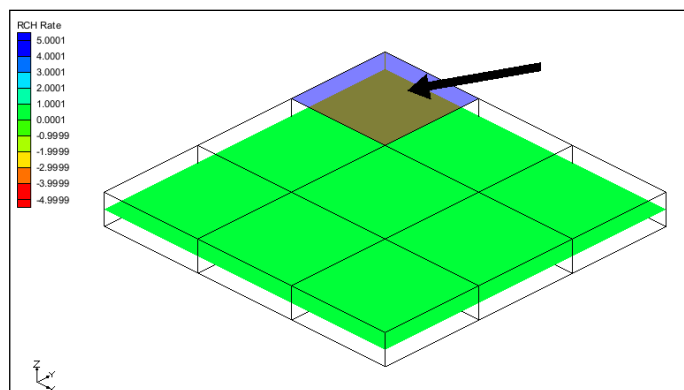

Figure 3 Select the cell indicated by the arrow (IJK: 1,1,1)
2. Using the **Select Cells**  tool, select the cell shown in Figure 3.